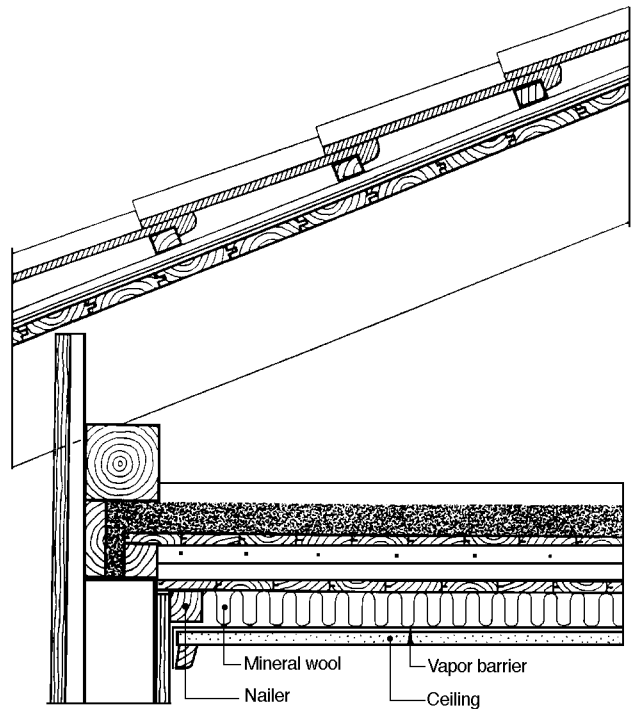

Figure 2.12
2.12 If insulation is being done one room at a time, or if a new internal ceiling is being installed, mineral wool can be placed between nailers 600 mm (24 in) center to center. The nailers should be attached directly to the old ceiling. Finally, a new vapor barrier with sealed joints and a new ceiling should be installed (Figure 2.12).